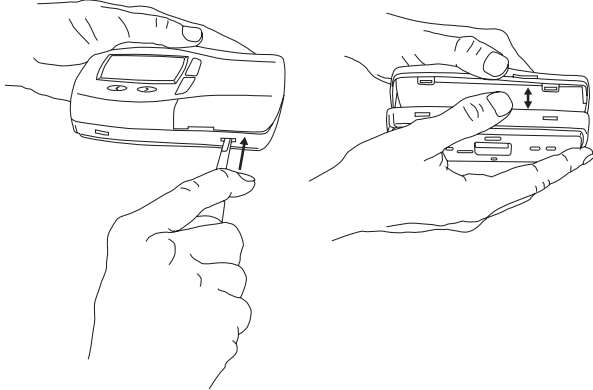
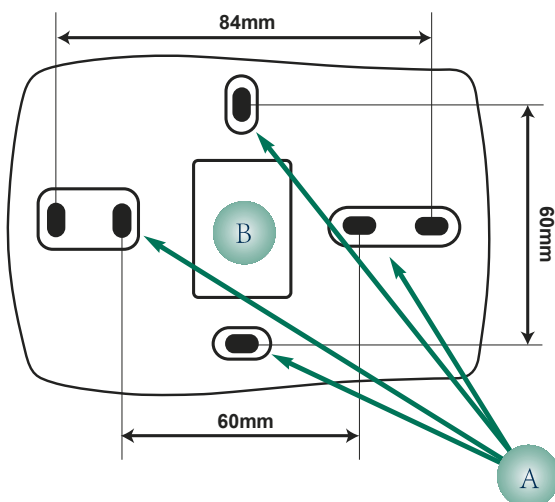

Figure 1
Figure 3
Open the front panel of the appliance, separating it from the bottom, levering it with a screwdriver or similar tool (see figure 1). After having removed the front the panel, make 2 holes with diameter 4 mm on the wall to which the device is to be fixed, at the required distance (see figure 3 point A).
- JST 3-way connector for connection with ST542 present inside the front panel and accessed by removing the cover (using a screwdriver or similar tool) as illustrated in figure 1.
The cables must pass through the hole in the center of the rear (figure 3 point B)